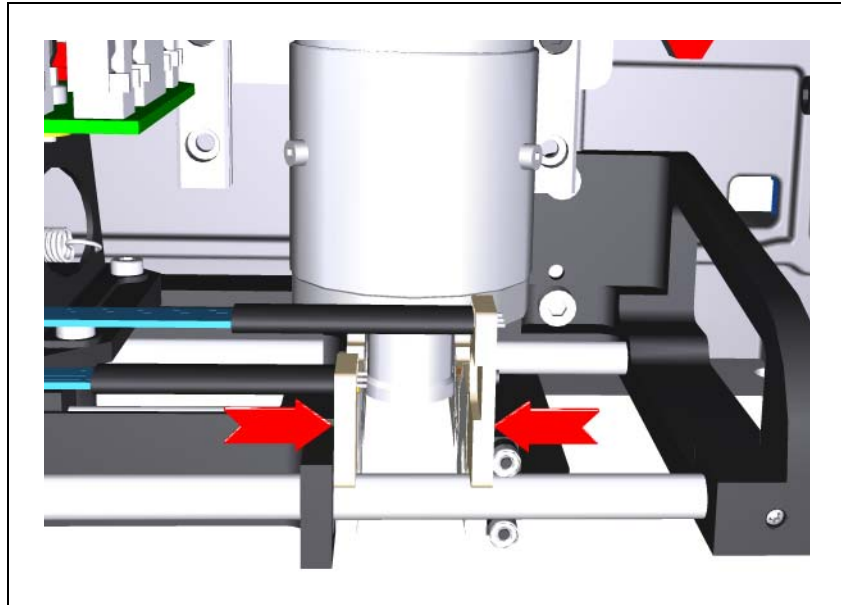

Figure 8-7. Align the centering jaws.
- 5. Align the centering jaws by pressing them tight against the tool holder on the Midas (see Figure 8-7).